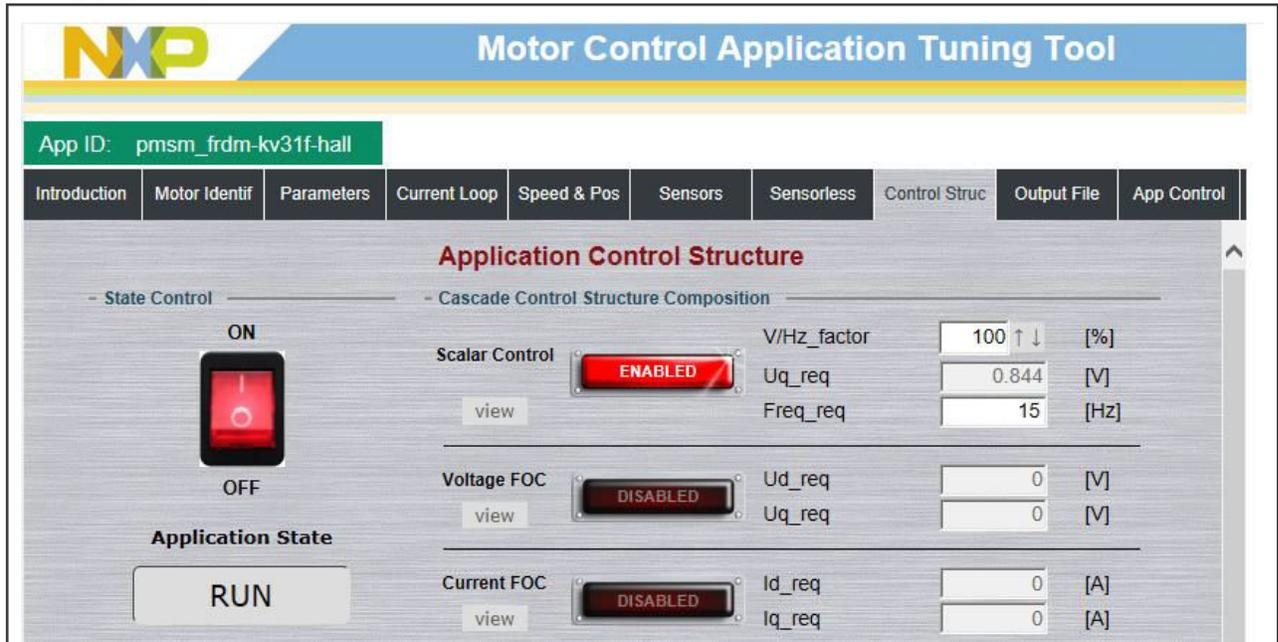

Figure 55. MCAT scalar control
- Set the required frequency value in the “Freq_req” field; for example, 15 Hz in the “Scalar Control” section. The motor starts running (Figure 55).